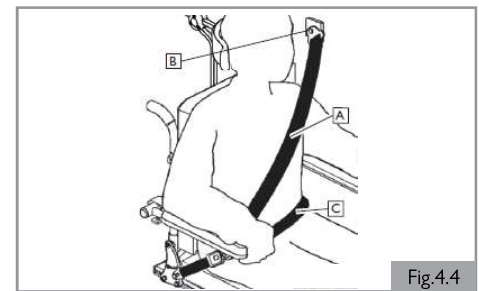

Fig.4.4
14. Both pelvic and upper torso restraint belts must be used to restrain the occupant to reduce the possibility of head and chest impacts with the vehicle components and serious risk of injury to the user and other vehicle occupants (Fig 4.4).
15. The upper torso restraint belt (A) should be mounted to the vehicle (B) pillar. Failure to do so will increase the risk of serious abdominal injuries to the user (Fig 4.4).
17. The pelvic restraint belt (C) must be worn low across the front of the pelvis so that the angle of the pelvic belt is within the preferred zone of 30 to 75 degrees to the horizontal (Fig 4.4).
19. The upper torso restraint belt (A) must fit over the shoulder and across the chest (Fig 4.4).